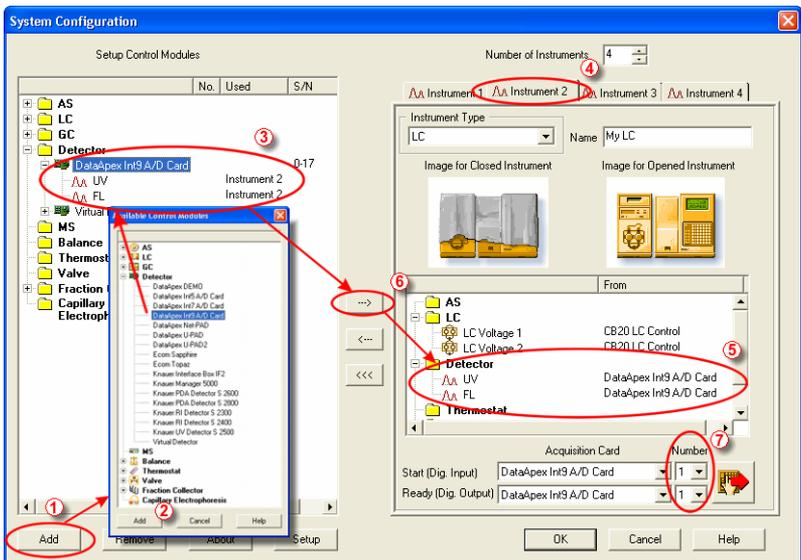

Fig. 4. System Configuration
3. Press the **Add**  button (see Fig. 4) to invoke the **Available Control Modules** dialog.
Note: *The **Input** used for an external **Start** from a chromatograph can be set in the **System Configuration** dialog (see Fig. 4 on pg. 10).*
- Standard assignment of external start Input and Ready OUT Output can be changed in the **System Configuration** dialog (7 in Fig. 4, pg. 10).